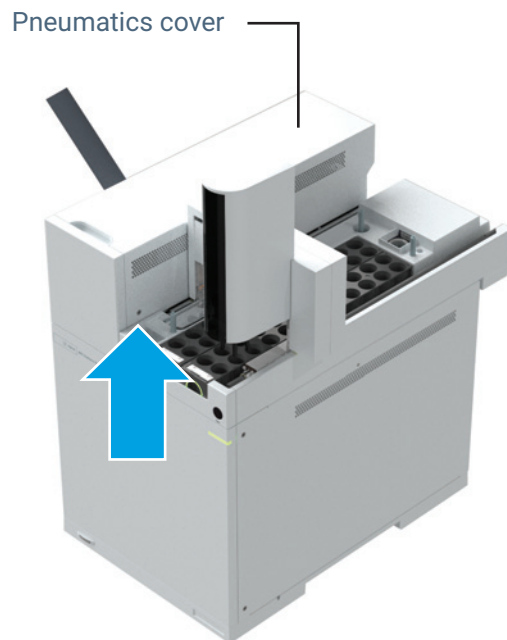

Figure 3. Remove the T-20 Torx screw from the pneumatics cover
- 2 Remove the T-20 screw that secures the cover in place (**Figure 3**).